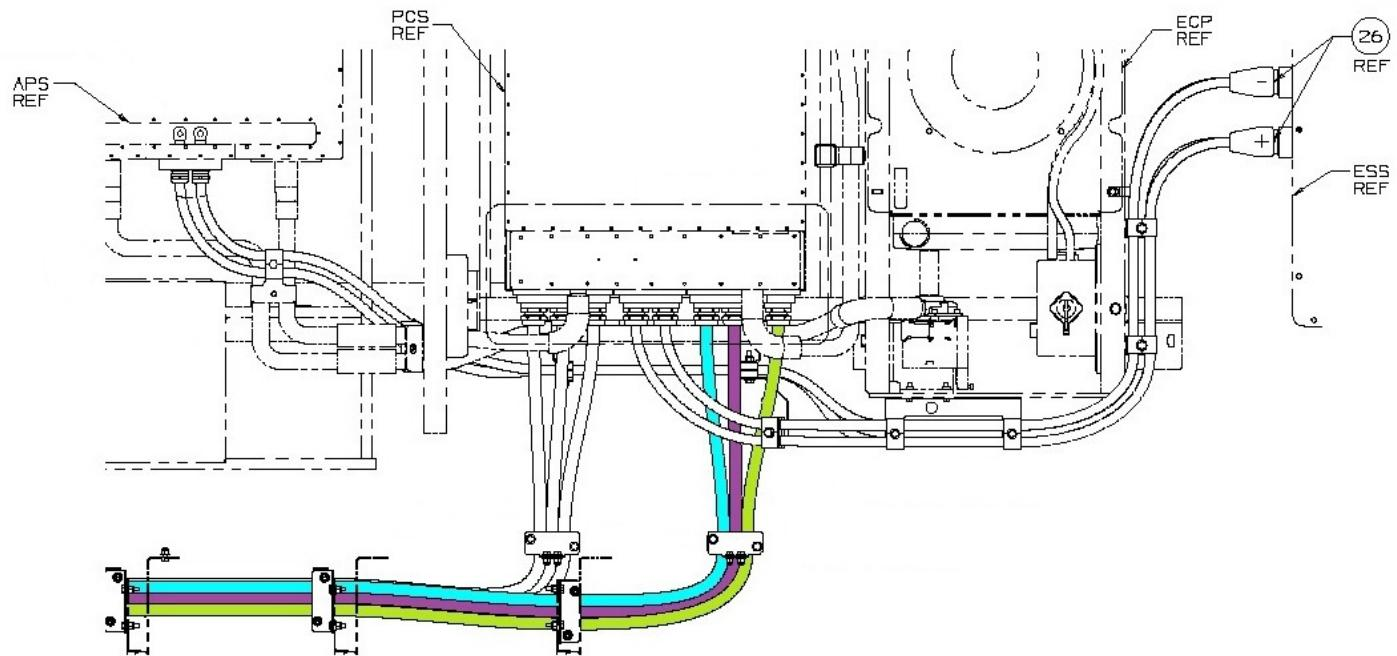

Figure 3: Propulsion Control System (PCS) Location on Roof
- h. **From the PCS end**, loosen and remove the M5 X 0.8 X 16MM bolts on the HV interlock plate. Remove the interlock plate and set aside. Refer to Figure 3.